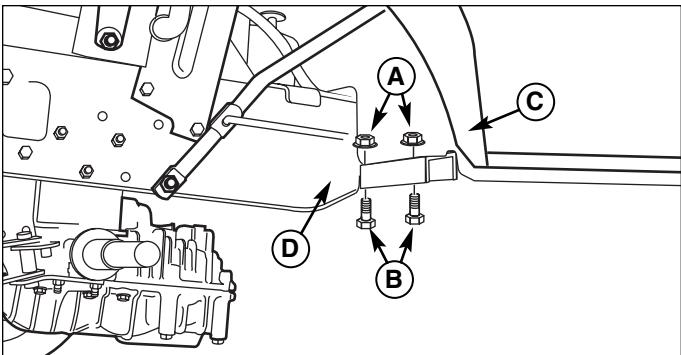

Figure 2. Capscrew Removal
2. Remove 5/16-18 nuts (A, Figure 2) and 5/16-18 x 3/4 capscrews (B) which hold the right rear seat deck (C) to the frame(D). Discard capscrews and nuts.